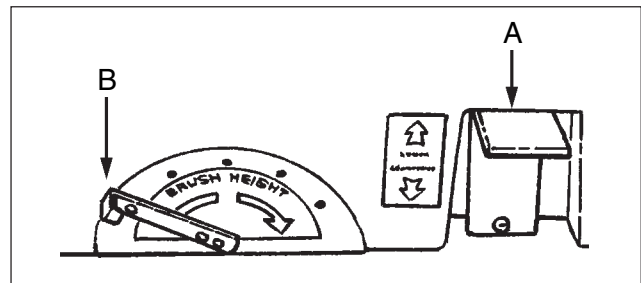

Figure 3
2. The foot pedal should be raised to the "Brush" position (figure 3, A) for wide area vacuuming.
3. Adjust the brush height with the lever located on the rear of the machine near the floor (figure 3, B).